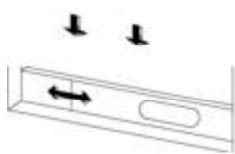

Figure 2
- Half open the window and mount the window sealing plate to the window frame (as shown in Figure 2 and 3); the assembly can be placed in horizontal and vertical direction.